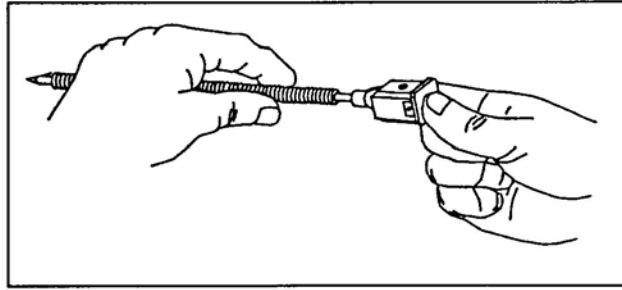

Figure 32. Replacement of the spring.
- (1) Put the slide spring on the return rod and transfer mechanism assembly (Figure 32).